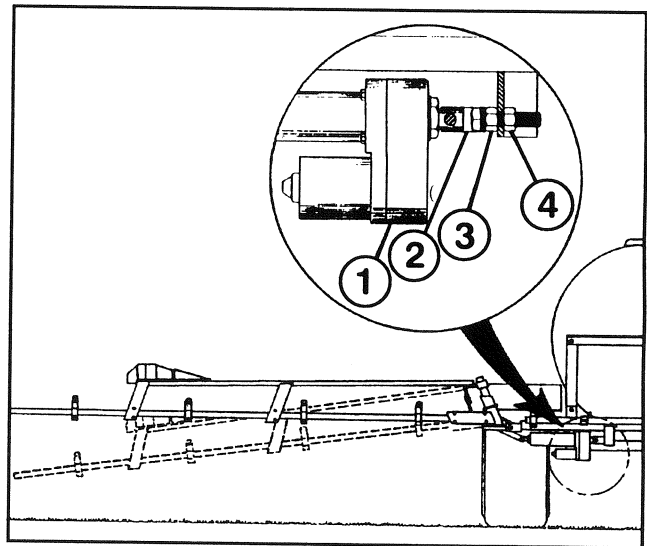

FIG. 15
1. Tighten the adjustable clevis jam nut as close against the clevis as it will go. See FIG. 15.